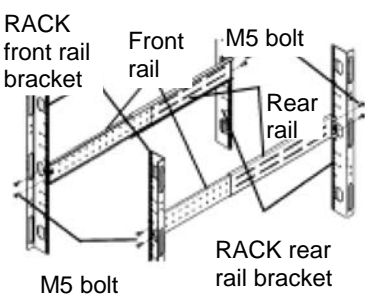

Fig. 1
- (1) Adjust the front and rear sliding rails to the same length as the RACK, fix the front and rear ends of the slide rails to the RACK using 8 M5 bolts, as shown in Fig.1.